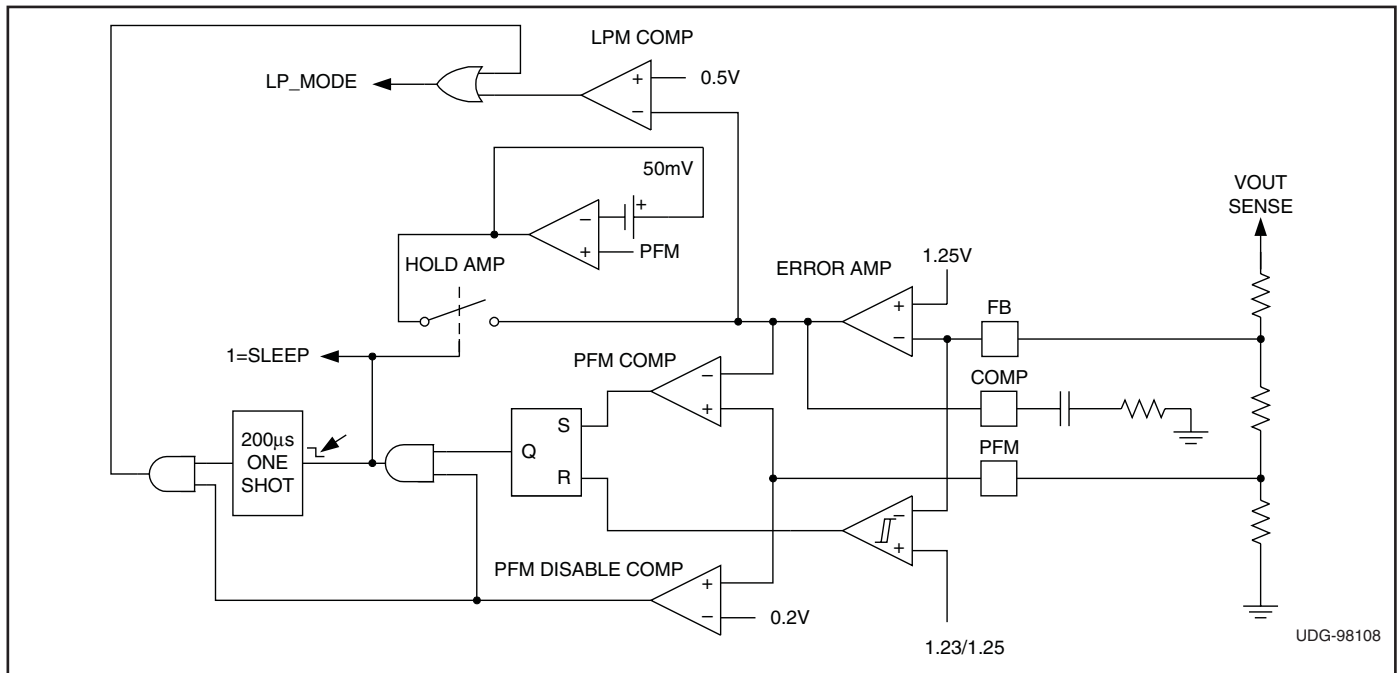

Figure 2. Simplified block diagram of Low Power and Pulse Mode control logic.
Since this is a peak current mode controller, the error amplifier output voltage sets the peak inductor current required to sustain the load. The UCC39421 incorporates two special modes of operation designed to optimize efficiency over a wide range of load current. This is done by comparing the error amplifier output voltage (on the COMP pin) to two fixed thresholds (one of which is user programmable). If the error amplifier output voltage drops below the first threshold, Low Power (LP) mode will be entered. If the error amplifier output voltage drops even further, below a second user programmable threshold, PFM Mode will be entered. These modes of operation are designed to maintain high efficiency at light load, and are described in detail below. Refer to the simplified block diagram of Fig. 2 for the control logic.